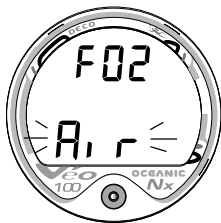

Fig. 17 - SET MODE ENTRY
- Upon entry into Set Mode, the Set FO₂ screen will be displayed with the Set Point flashing (Fig. 17).